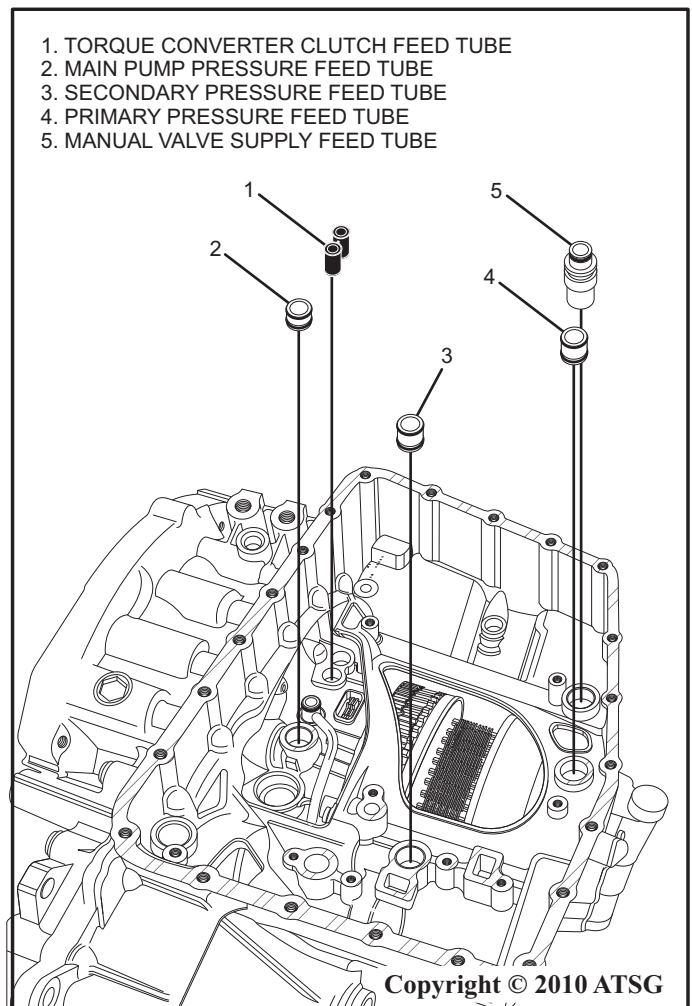

Figure 26
62. Coat the o-rings on the feed tubes with a small amount of atf and install into the case as shown in figure 26.
63. Install the torque converter clutch feed tube into the case as shown in figure 26.
64. Install the main pump pressure feed tube into the case as shown in figure 26.
65. Install the secondary pressure feed tube into the case as shown in figure 26.
66. Install the primary pressure feed tube into the case as shown in figure 26.
67. Install the manual valve supply feed tube into the case as shown in figure 26.